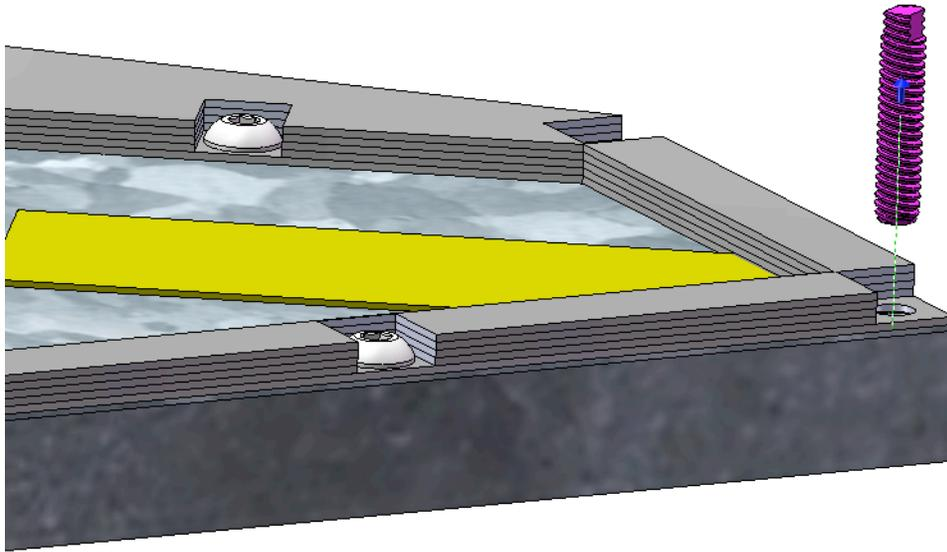
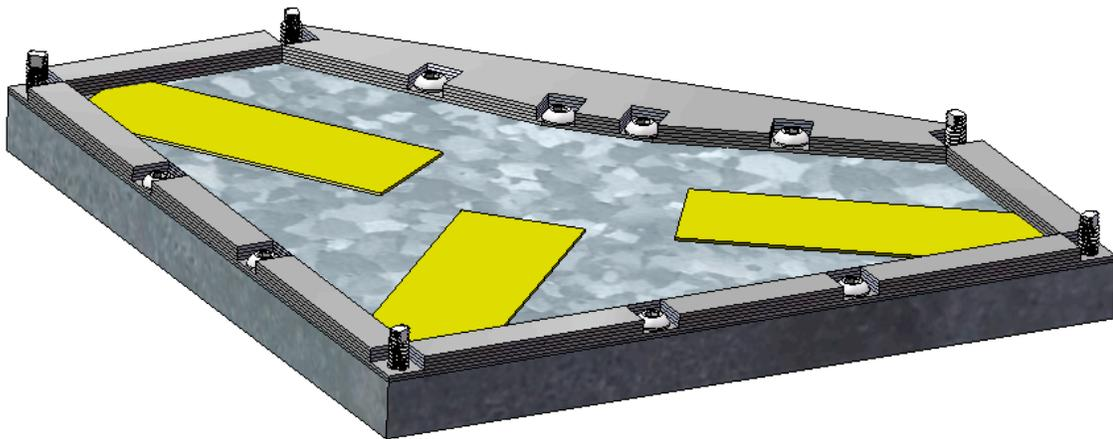

Figure 3-12: Insertion of keyed $\frac{1}{4}$ "-20 threaded links.
Figure 3-13: Five outside corner locations for threaded links.
- 10) Screw down the five “keyed” ¼”-20 threaded rod links into the outside corner holes about ½”. See Figure 3-12 and Figure 3-13.